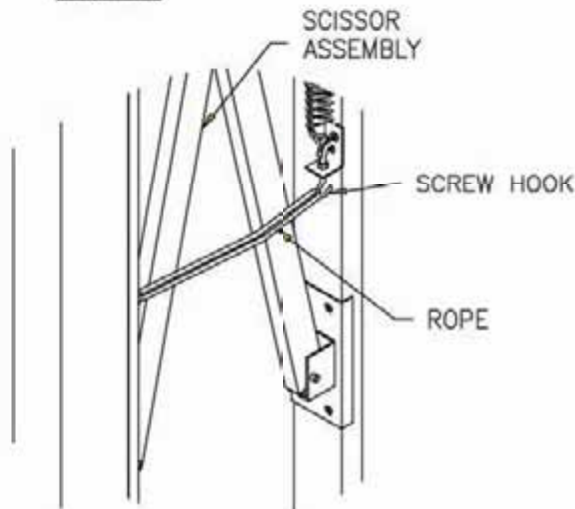

FIG. 11
13. Attach projection material: Prior to attaching the projection material, release retraction arm to the desired projection. To ensure that this position remains constant, tie off arms with rope (fig. 11).